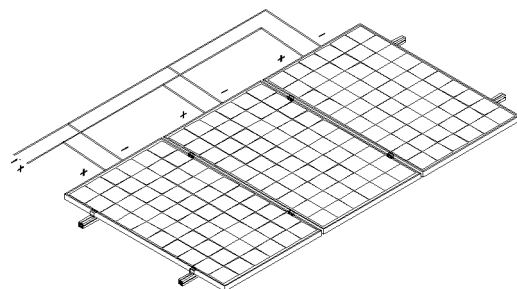

figure7 Parallel
- While connected in parallel, the output current is equal to the sum of current of each string (show in figure7). Use a fuse in each string of module; please refer to the application requirements locally. Recommended maximum parallel module configurations: $\text{Fuse rating} / \text{Isc} + 1$.